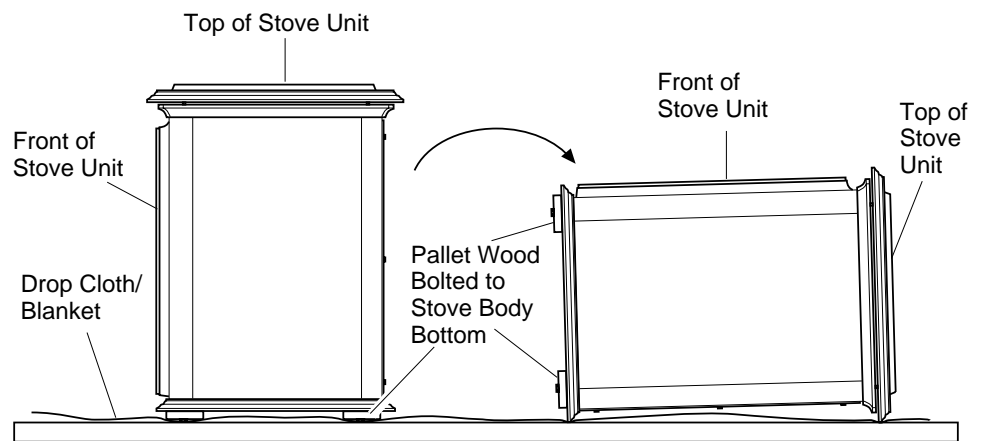

Figure 6 - Laying Down Stove On Back (Stove Style May Vary Depending on Model)
- (1) - Hardware kit bag with fasteners
- Carefully lay stove body on back to attach bottom components to stove body (see Figure 6). Rest stove on drop cloth or blanket to avoid scratching stove edges.